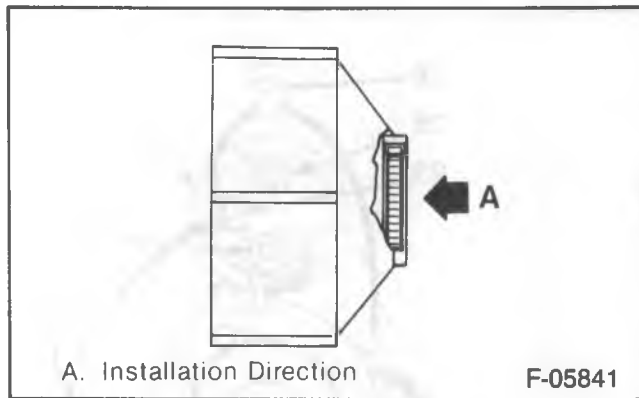

Figure 11—Gear Bearing installation
3. Gear bearing into the gear by pressing until it is 0.28 to 0.38 mm (0.011 to 0.014 inch) below the casting surface (figure 11).